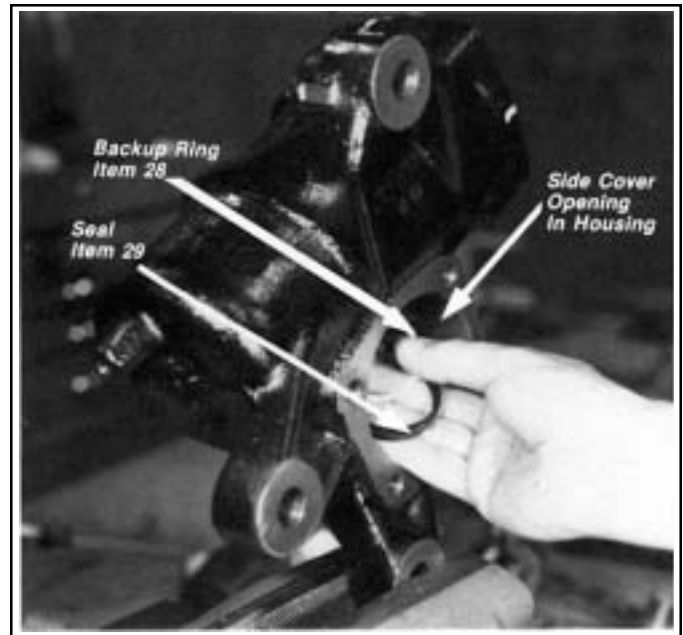

FIGURE 31 - REMOVING/INSTALLING HOUSING OUTPUT SHAFT SEAL
18. Reaching through the side cover opening of the housing (22), remove the output shaft seal (29) and its split nylon backup ring (28) which comes out separately but is part of the seal (29). *Figure 31 Note: The two piece seal*